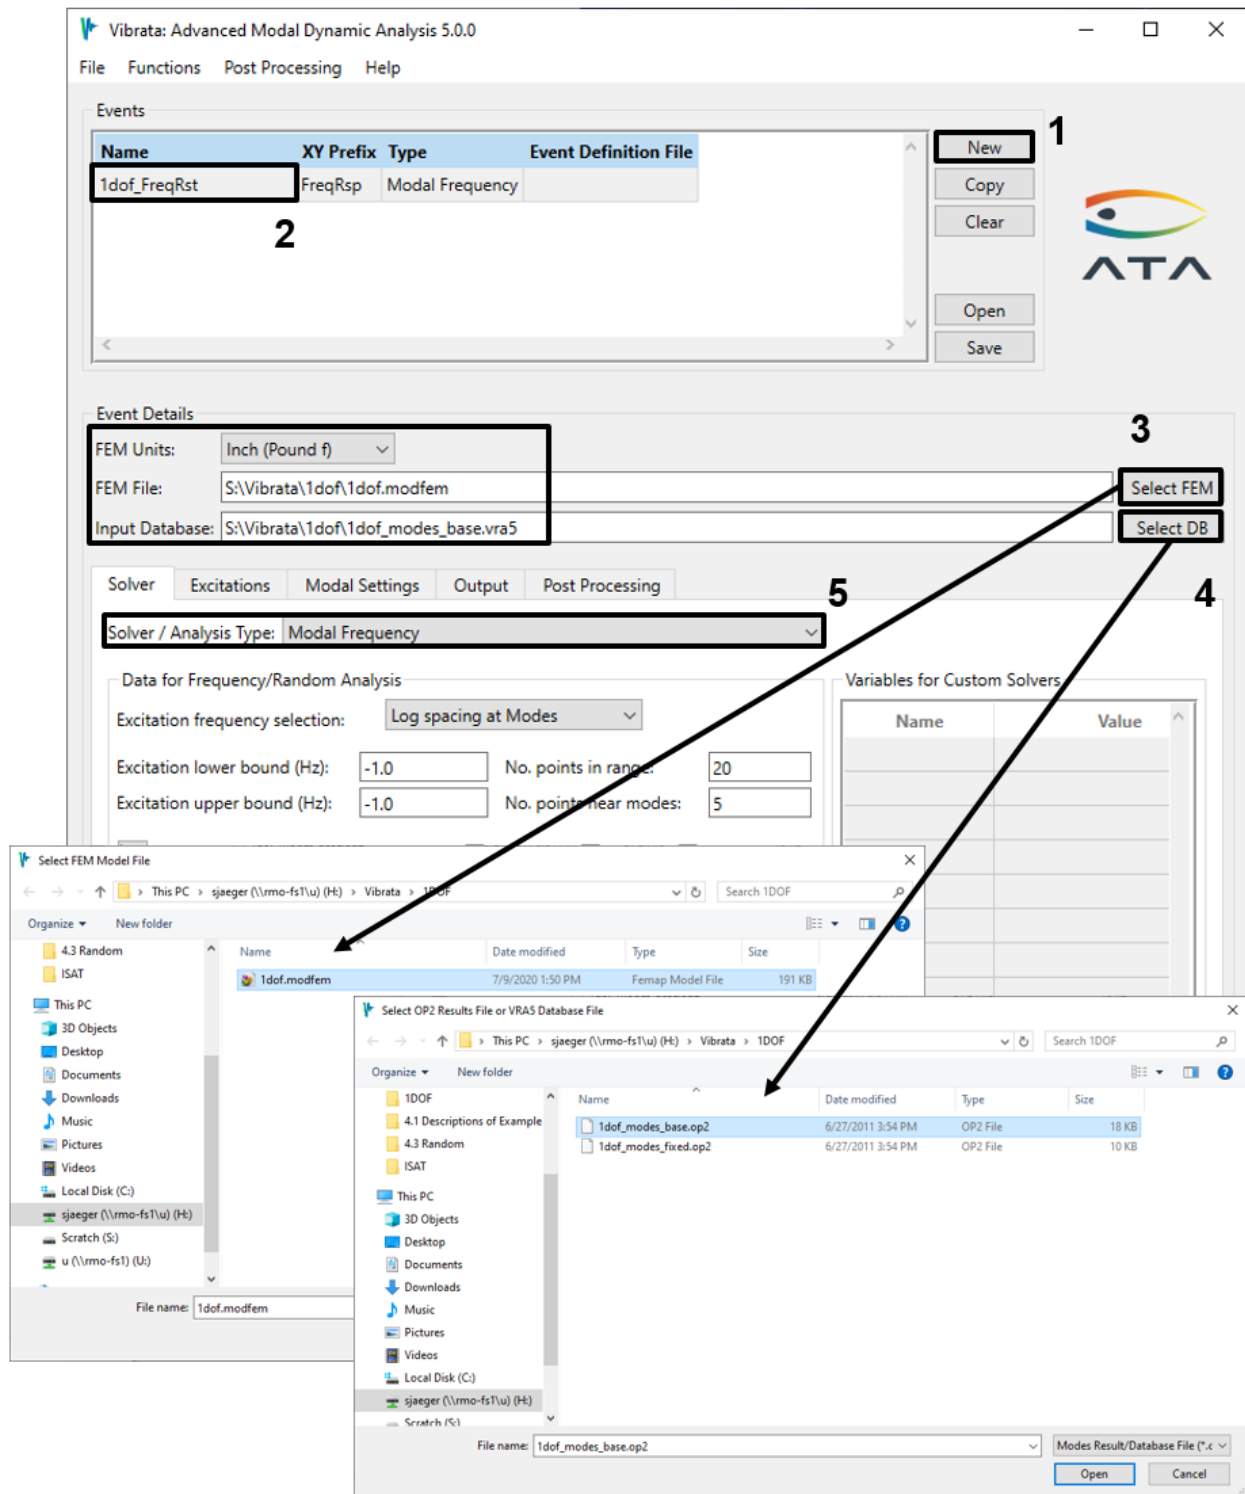

Figure 4-9. Create a new frequency response event and select the FEM on which to base it.
2. Start Vibrata and create a new modal frequency event using that modfem file (Figure 4-9) and select the OP2 named "1dof_modes_base.op2" for the results. You can assign an XY Prefix here, or you will be asked for one when you solve.